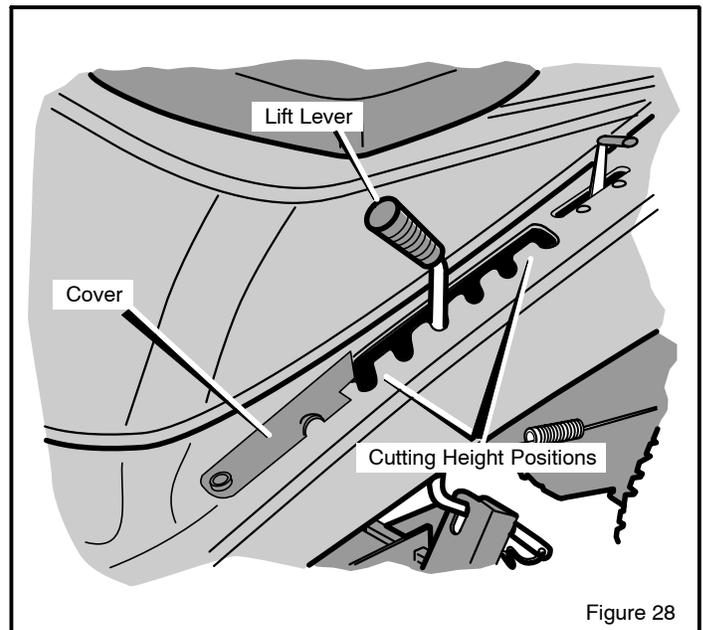

Figure 28
9. Raise the **lift lever** from the LEVEL ADJUSTMENT position to a CUTTING HEIGHT position (Figure 28).